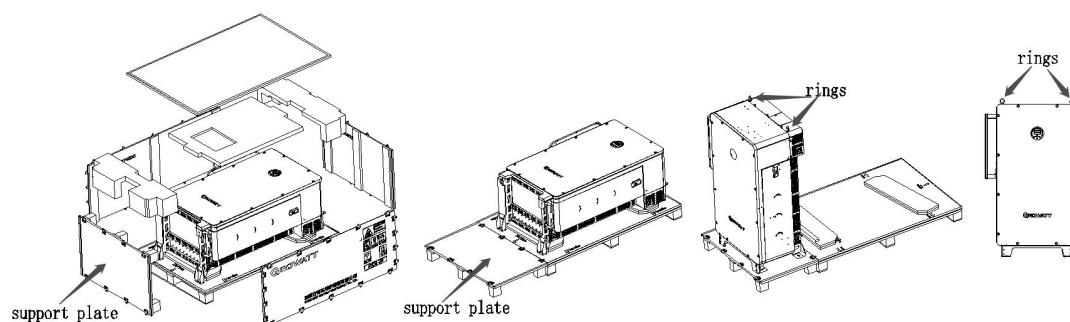

Fig 5.6 Hoisting a Storage Inverter
- 1> As shown in Figure 5.6 below, unpack the inverter (remove the roof panel and the support plates). Then piece the support plates together with the bottom panel. Install the hoisting rings and pull out the handles. Grasp the handles to turn the inverter upright. Run a rope strong enough to bear the Storage Inverter through the hoisting rings and hoist the equipment, and then move the Storage Inverter to the installation position;